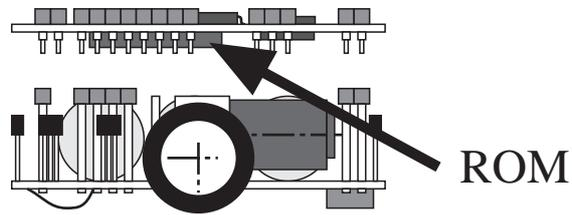

Figure 42: ROM position, on the bottom side of the CPU board.
- When the CPU and motor board are disconnected, remove the ROM. The ROM is situated on the bottom of the CPU board, as indicated in figure 42.